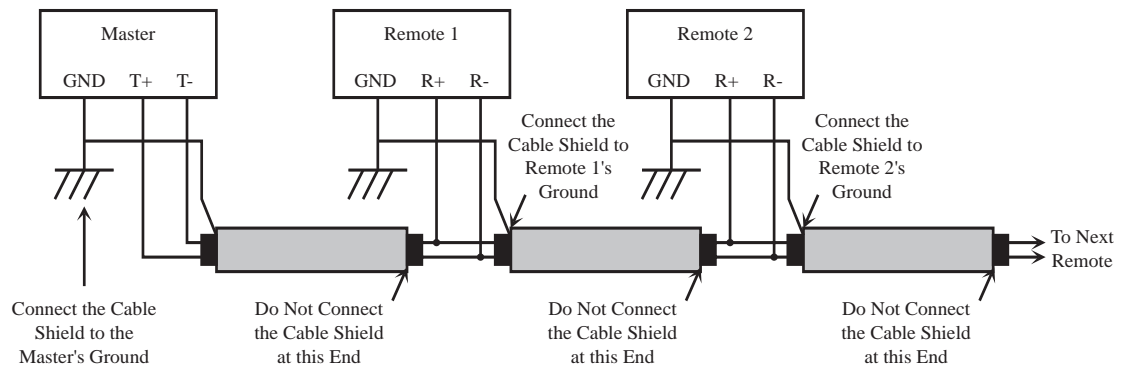

Figure 2-3: Communication Shielding With All Units Earth Grounded
- earth grounding all units (see Figure 2-3)
For systems with multiple units on a network, there will be a series of cables daisy-chained between the units, and the shield of each leg of the network should be connected to ground at only one end. It does not matter which end. An example of this method of grounding is shown in Figure 2-3.
All units are connected to the same earth ground. Each shield ground is connected to only one unit, then interrupted to prevent the formation of ground loops. Two sets of lines are wired as shown in Figure 2-3. It does not matter significantly which unit's GND is used for a particular shield, as long as the path is broken from unit to unit.